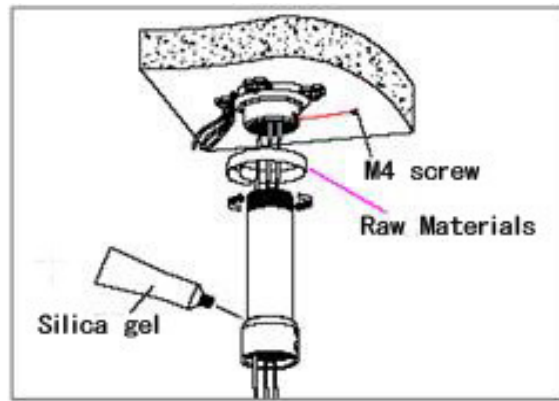

Fig 14
c. As shown in the fig 14, tighten the boom with electrical wire and cable through it on the base of ceiling and screw up the M4 screw.